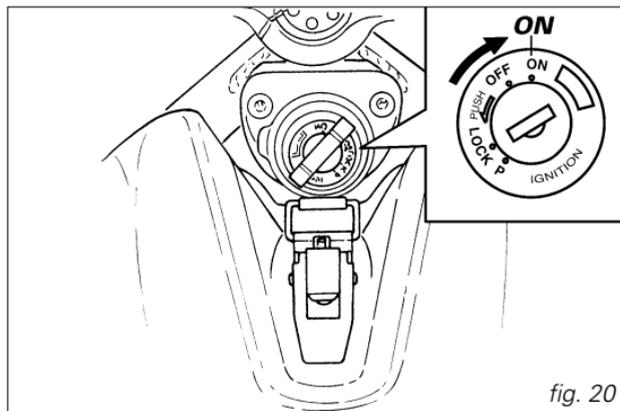

fig. 20
1) Move the ignition key to **ON** (fig. 20). Make sure both the green light **N** and the red light  on the instrument panel come on.